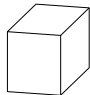

Fig. 2.3 (Install front screws, washers & lock nuts)
2.3 Per figure 2.3, install front mounting hardware listed below. Install rubber seal washer against roof then steel washer and screw. Note that the center bolt location may require assistance to tighten down.